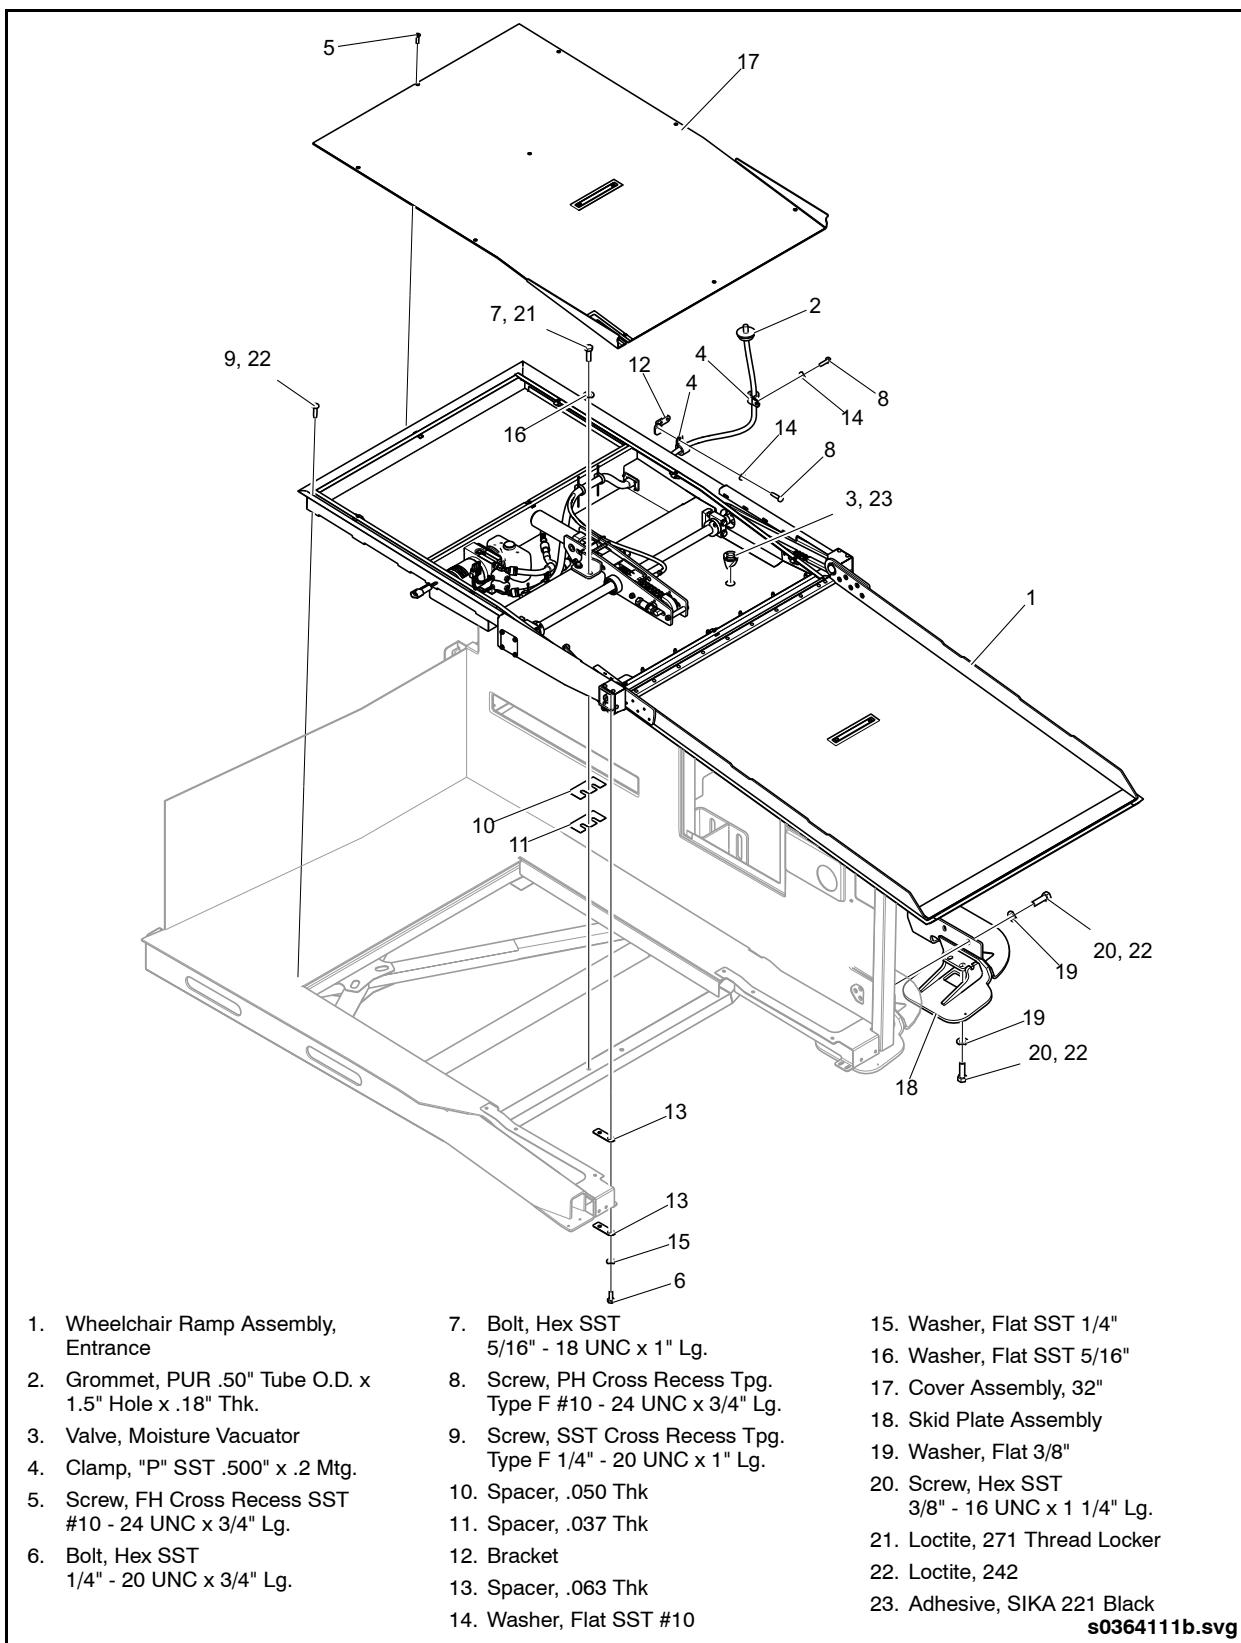

Fig. 20-2: Ramp Installation
3. Remove the interior dash access cover and disconnect the electrical cables to the wheelchair ramp. See "Fig. 20-2: Ramp Installation" on page 10.